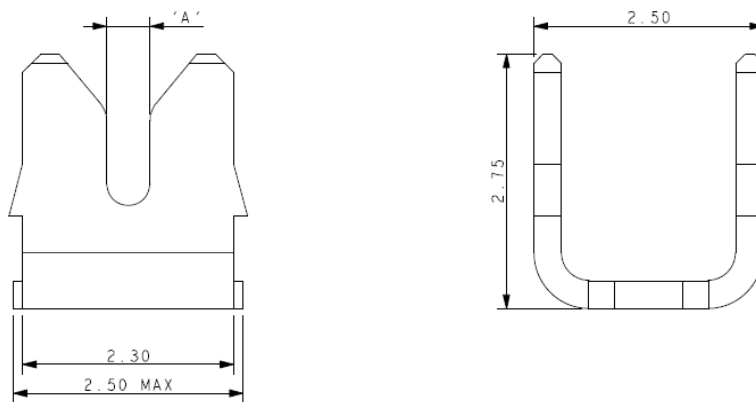

Figure 14. AVX Series 9176-400 IDC Connector.
2. For connector detail, refer to Figure 14.
- 2. For connector detail, refer to Figure 14.
Notes for Figure 14: